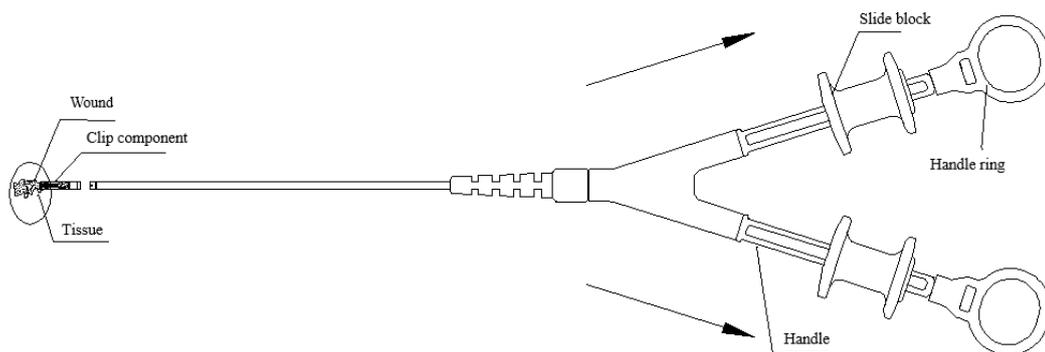

Fig 8 Release
7. To permanently close Disposable Dual Action Tissue Clip, you can move the slide block towards the handle ring after the resistance is felt. At this time, you can feel or hear the click, which indicates the clip has been released (as shown in Fig 8); after release, the clip and the device can be separated by the following two methods: